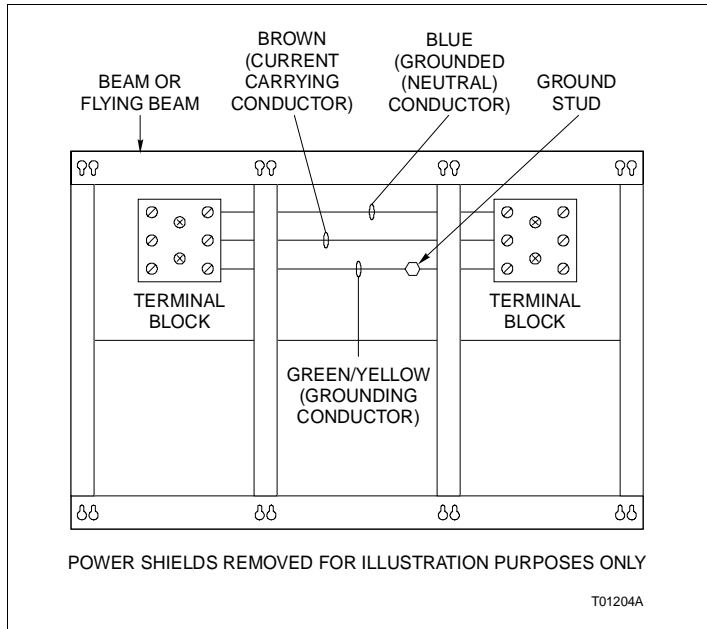

Figure PR25-3. Beam Power Bus
- 4. Use the flat blade screwdriver to remove the terminal block screws and insert the three wires provided with each elbow to match the configuration shown in Figure PR25-3.